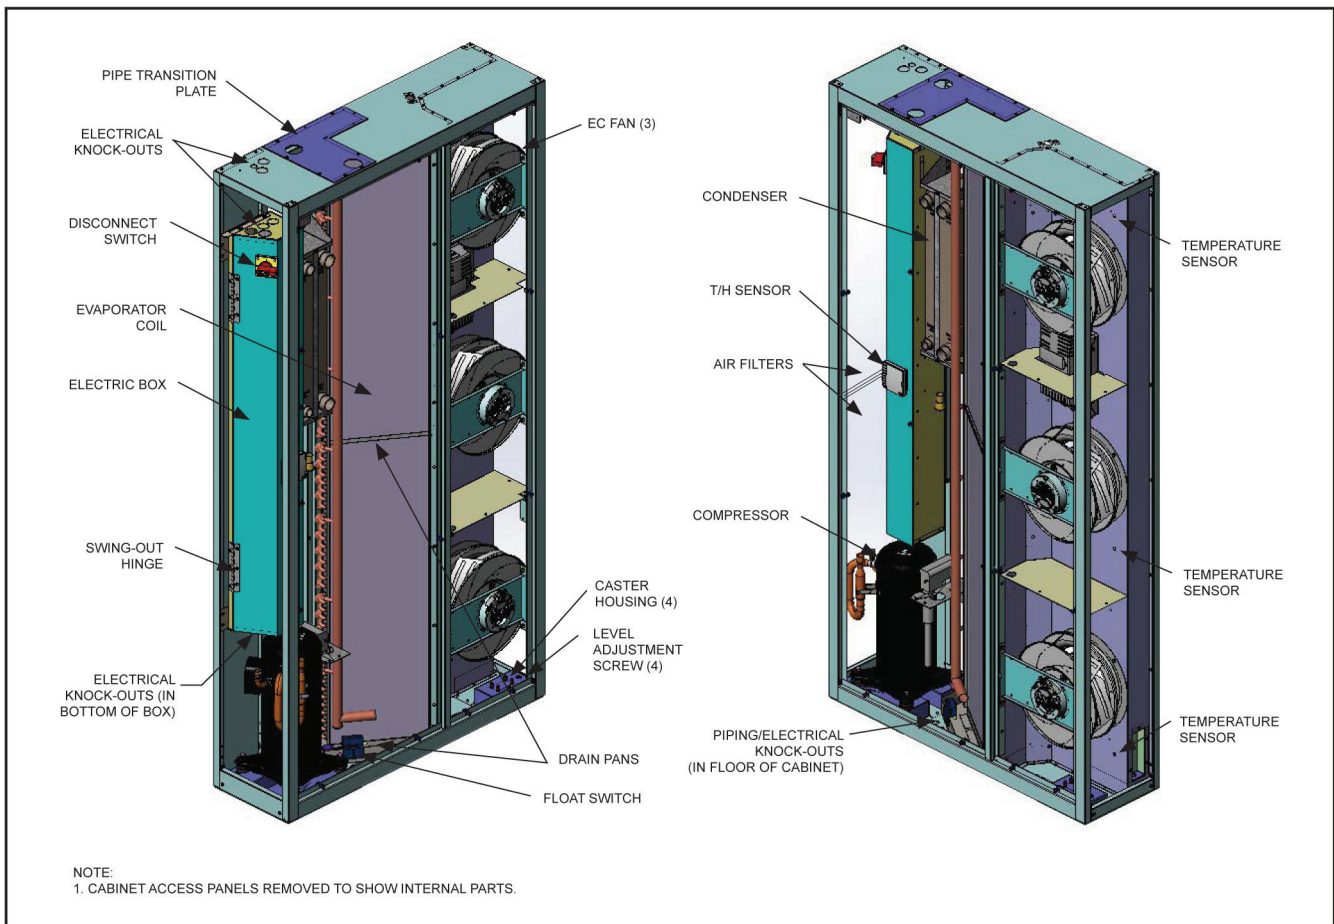
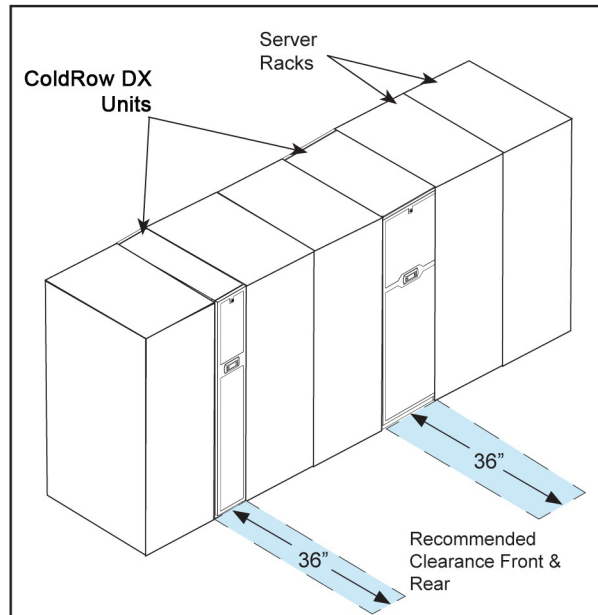

Figure 1-2. Typical internal layout: Cold Row DX.
Figure 2-1. Recommended installation.
Figure 1-2 depicts a typical internal layout and identifies the major components of a typical Cold Row unit using direct expansion (DX) refrigerant. The location of some components may vary depending on the cooling configuration selected (water, water/glycol, or air cooled).
The electrical components are protected inside an electric box located behind the rear access panel. The electric box cover is safety interlocked with the service disconnect switch (See Figure 1-2), preventing the cover from being opened when the switch is in the On position. The switch must be turned Off to gain access to the electrical compartment.
Cold Row cabinets are designed to be installed in a row of servers between the server racks (see Figures 2-1–2-3). They have a compact footprint that allows the units to be placed adjacent to the heat-producing equipment racks anywhere in the row. They provide cool, conditioned air through the front grille to the adjacent server modules on the cold aisle side of the row. We recommend positioning the unit to obtain optimum air circulation. Allow 36" clearance in the front and rear of the cabinet for servicing the unit.
The cabinet is equipped with an adjustable foot at each corner to raise the cabinet off the casters after the unit is positioned in its operating location. The adjustable feet are also used for leveling and overall height correction. To adjust the height, use a flat-head screwdriver to turn the screws, located at the top of the four caster housings (accessed inside the front and rear corners of the cabinet per Figure 1-2). Raise or lower each foot until the cabinet is level and even with the adjacent equipment racks (see Figure 2-1).